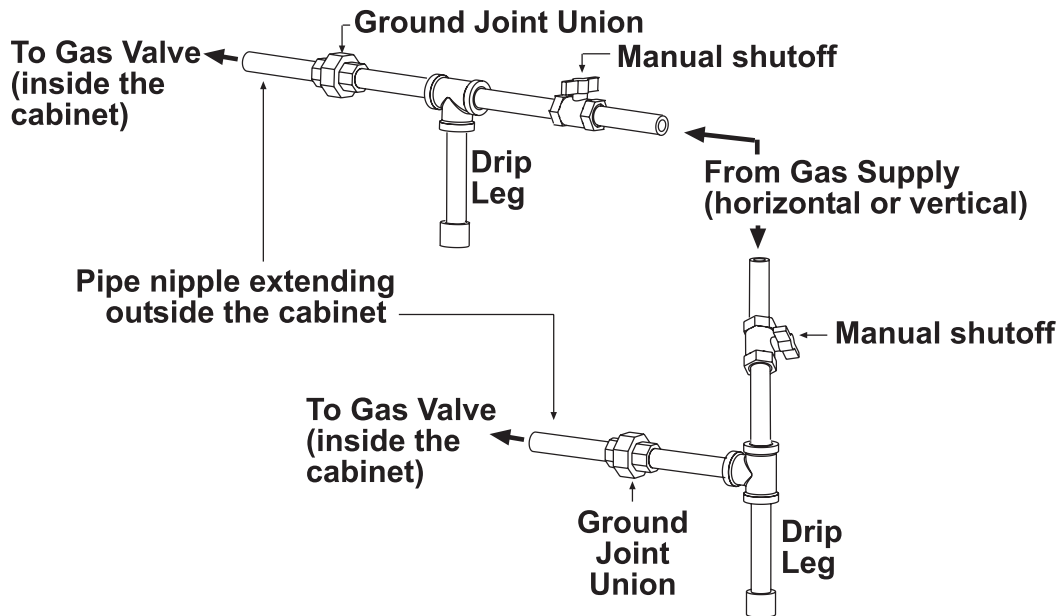

Figure 22. Gas Connections
- Install a ground joint union and manual shutoff valve upstream of the unit control system. The 1/8-inch plugged tapping in the shutoff valve provides connection for the supply line pressure test gauge. The *National Fuel Gas Code* requires the installation of a trap with a minimum 3-inch drip leg. Local codes may require a longer drip leg, typically 6-inch (see **Figure 22**).